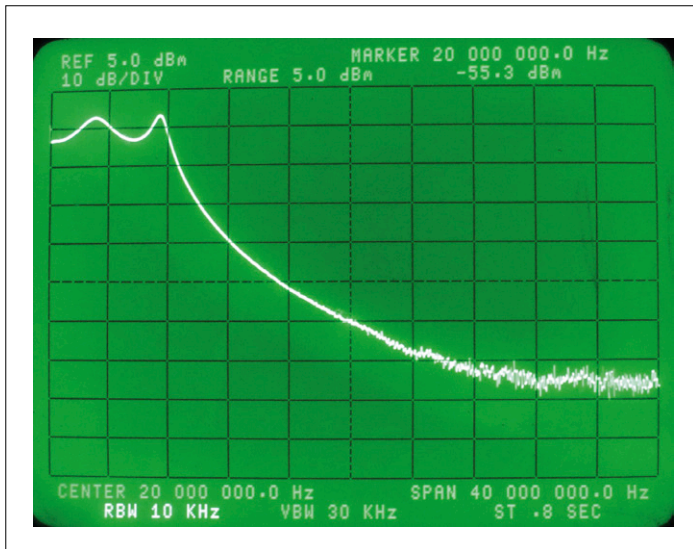

Figure 8. Measured frequency response of a lowpass filter.
**Figure 8** shows the measured frequency response of a Chebyshev lowpass filter in the range from  $0$  MHz to  $40$  MHz. At higher frequencies the attenuation is so great that the signal is lost in the noise of the spectrum analyzer.